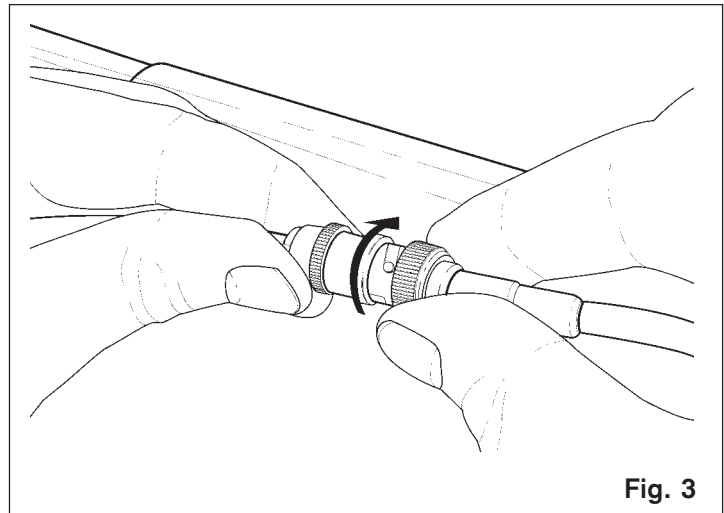

Fig. 3
- ◆ Open the lid of the carrying case and remove the antenna and antenna support tube from its holder in the lid. Open the inner pouch to access the antenna cable. Connect the BNC plug of the antenna cable to the BNC jack on the control box - Fig. 3.